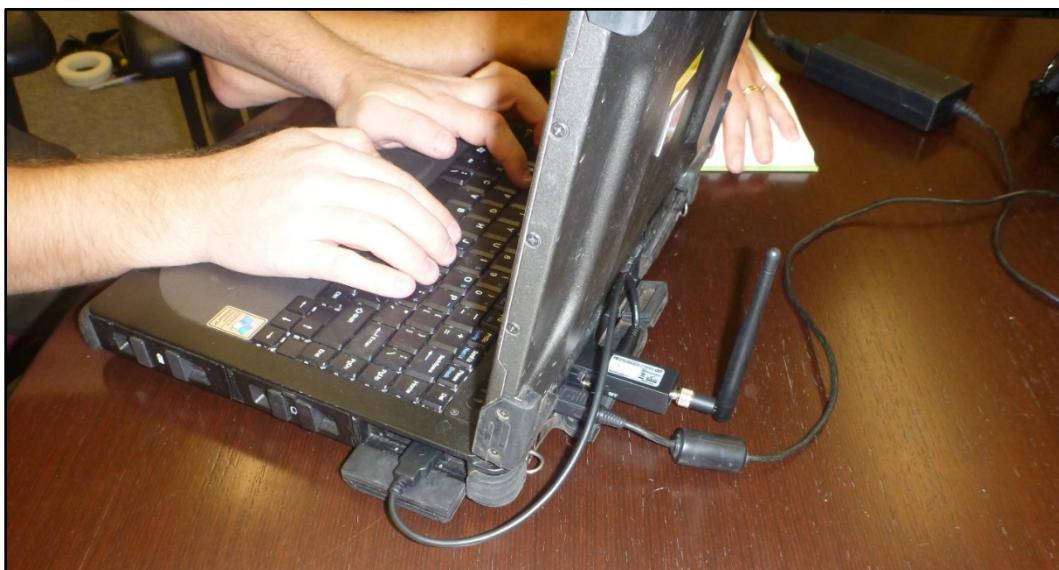

Figure 9.—Connect Bluetooth antennae to laptop and use USB cable to power on.
- c. Plug in power cable from box to USB on laptop (figure 9).